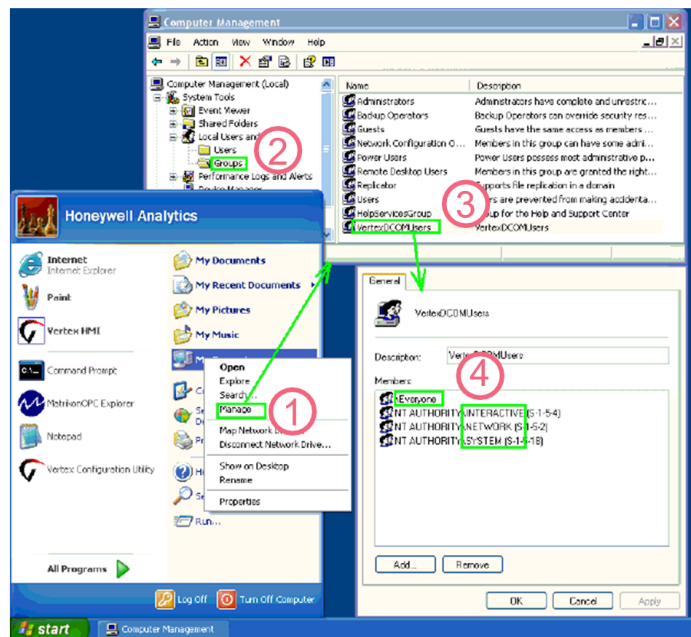

Figure 8-13. Create Group **VertexDCOMUsers**
5. Add members **Everyone**, **Interactive**, **Network** and **System** as shown in Figure 8-13.